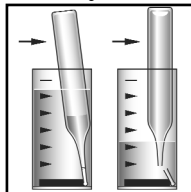

Figure 3
5. Place the Vacu-vial ampoule, tip first, into the sample cup. Snap the tip. The ampoule will fill leaving a bubble for mixing (fig. 3).